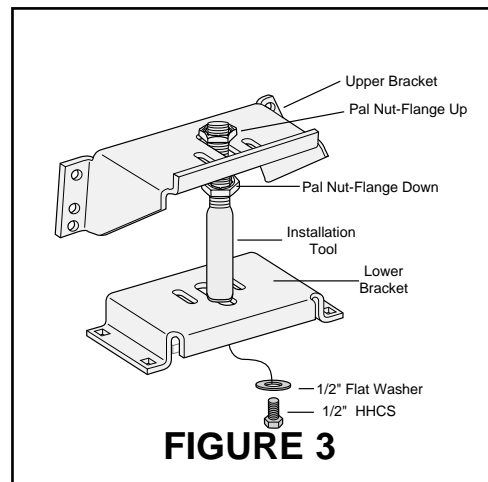

FIGURE 3
3. Assemble the upper and lower bracket to the alignment tool. This tool is designed to help you properly install the kit for correct height and alignment. The range of adjustment to attain the correct mounted height is determined by the upper threaded section of the tool. The kit may be mounted anywhere in that range (Figure 3).
4. Place the upper bracket "legs down" onto the threaded end of the tool resting on the bottom Pal nut. Then thread a second Pal nut (flange up) onto the tool to hold the bracket in place. Leave loose for later adjustment. (Figure 3).
5. Use the 1/2" x 7/8" hex head bolt and flat washer to attach the lower bracket to the bottom of the installation tool with the open edge of the lower bracket toward the legs of the upper bracket. **Leave loose** enough to adjust in and out (Figure 3).